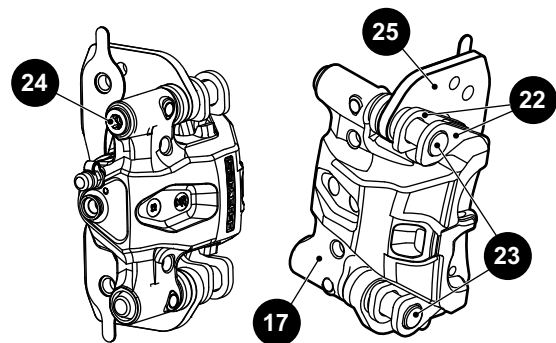

Fig. 6 Brake Pad Replacement
4. Compress pistons by pushing the mounting bracket (25) inward against the caliper body (17).
5. Remove the brake pads (outermost pad first) from the slide pins (23) (Ref. Fig. 6).
7. Install the new brake pads (22) in the reverse order of removal.
8. Place the caliper assembly (17) onto the rotor with the rotor in between the two brake pads (22).
9. Align the mounting holes on the caliper assembly with the corresponding holes on the spindle. Secure with two bolts (15) and nuts (16).
10. Install a new jam screw (24).